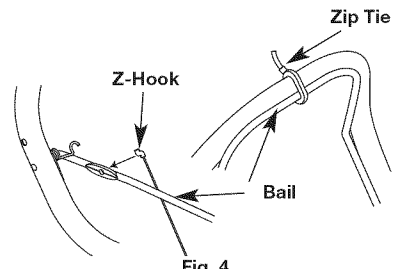

Fig. 4
- Cut the Zip tie holding the bail to the handle (Fig. 4).
- Insert the Z-Hook into the hole on the right side of the bail to secure the clutch cable to the bail (Fig. 4).
The unit is supplied with one 3.04 fluid oz. (90 ml.) bottle of SAE 30 SF, SG, SH oil (Fig. 4).